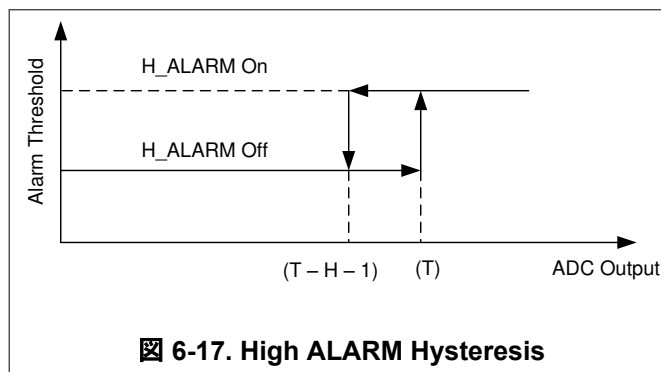

Figure 6-17. High ALARM Hysteresis
The device sets the input high alarm when the digital output exceeds the high alarm upper limit [high alarm threshold (T)]. The alarm resets when the digital output is less than or equal to the high alarm lower limit [high alarm (T) – H – 1]. Figure 6-17 shows this function.